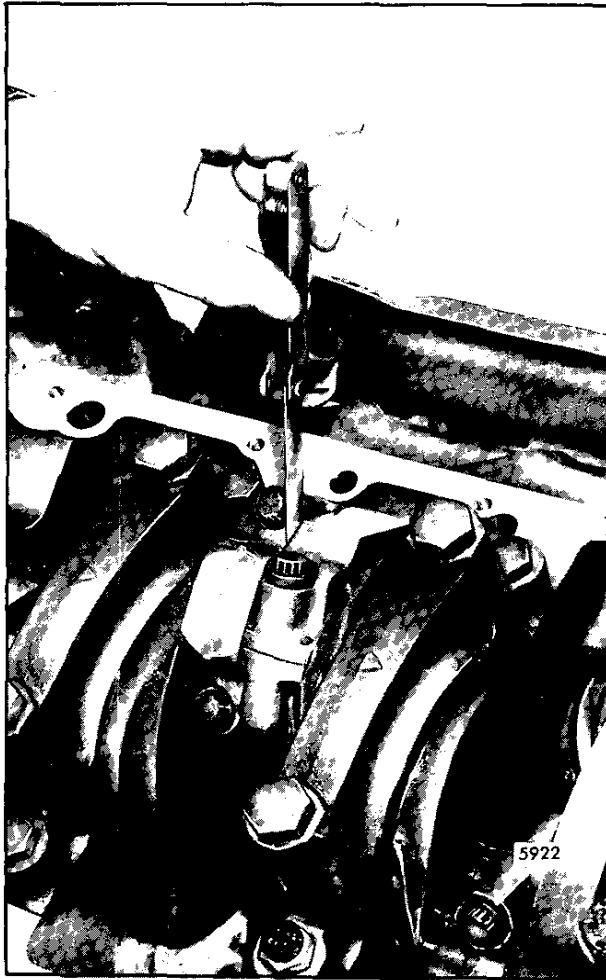

Fig. 4 - Measuring Connecting Rod Side Clearance
14. Measure the connecting rod side clearance Fig. 4. The clearance should be .20 - .52 mm (.008" to .020") between the connecting rods.